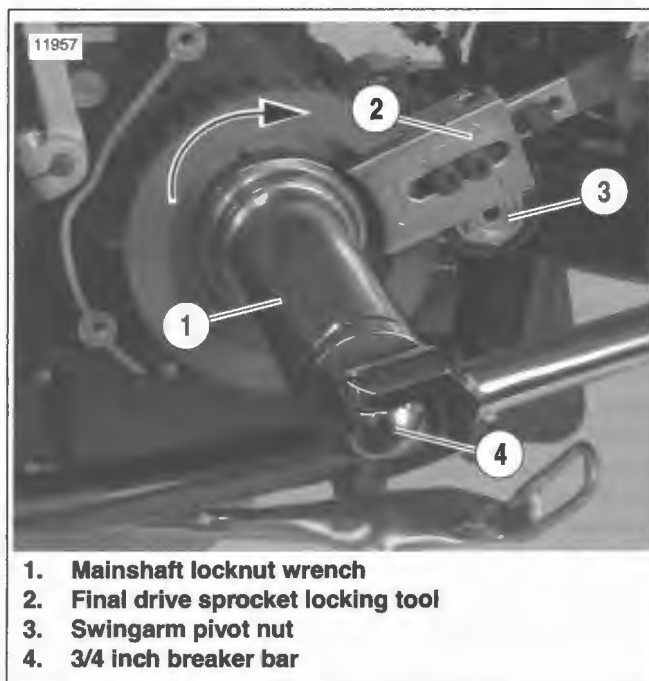

Figure 6-34. Mainshaft Locknut Installation: Typical
3. See Figure 6-34. Lock transmission sprocket with the FINAL DRIVE SPROCKET LOCKING TOOL (3) (Part No. HD-46282). Final drive sprocket locking tool must rest against upper portion of swingarm pivot nut (2).